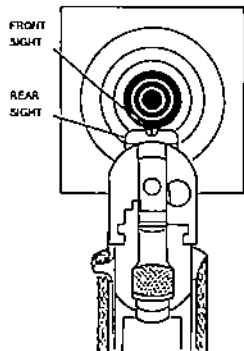

FIGURE 5 - AIMING
3. Grasp pistol by stock and, with index finger resting along the outside of trigger guard, take aim. Aim by aligning target with front and rear sights. (See Figure 5). After identifying your target and seeing that it is clear to shoot, focus on the front sight. Be sure you have a safe backstop. **THINK!** *What you will HIT if you MISS the target?*